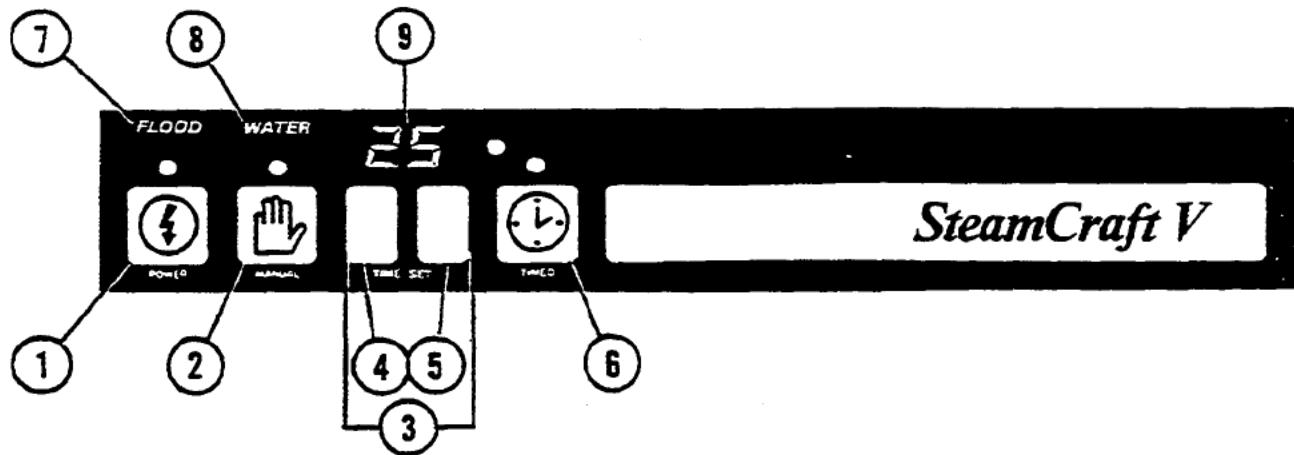

Figure 2-28. Control Panel
3. Refer to figure 2-28 and press the TIME SET one minute touch pad (5) to increase TIME DISPLAY from 00 to 09, then back to 00.
4. Refer to figure 2-28 and press the TIME SET ten minute touch pad (4) to increase TIME DISPLAY from 00 to 90, then back to 00.
5. Set the TIME DISPLAY to 01 and press the TIMED touch pad (6).